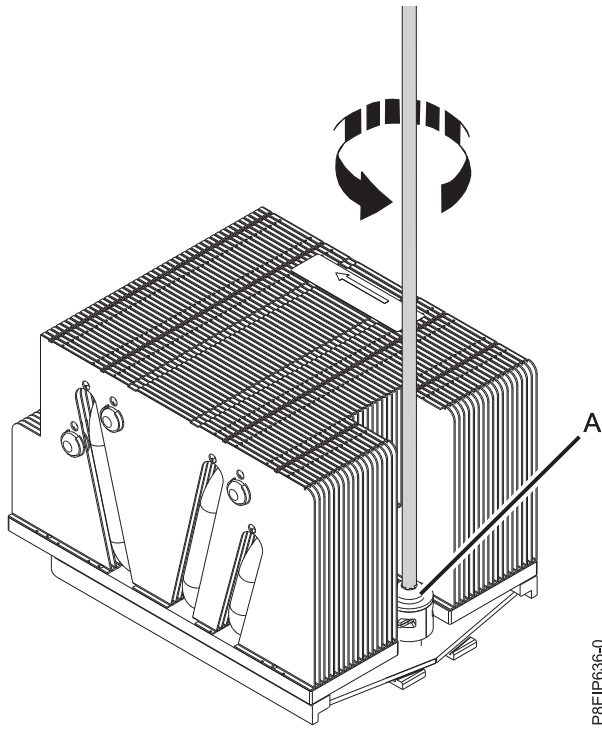

Figure 64. Loosening the load arm screw of the heat sink
3. Loosen the load arm screw (A) of the system processor heat sink that you are removing by using a #3 Phillips screw driver as shown in Figure 64 on page 53.